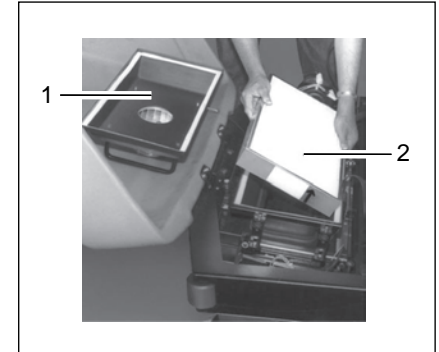

Fig. 39
Clean the panel air filter (Fig. 39/2) in the dust vacuum regularly or as necessary using the agitating device:
2. Remove the straps holding the filter case cover (Fig. 39/1).
3. Remove the filter case cover (Fig. 39/1).
4. Remove the panel air filter (Fig. 39/2).
Drop the panel air filter (Fig. 39/2) a few times, from a suitable height, onto a solid surface. Ensure the filter ribs are not damaged!
The surface must not have any irregularities. Do not let the panel air filter (Fig. 39/2) drop at a slant.
Do not install panel air filters (Fig. 39/2) which have damaged filter ribs!
The panel air filter (Fig. 39/2) must be installed in the reverse sequence to disassembly, refer to paragraph "Disassembling the panel air filter".
To not insert the panel air filter (Fig. 39/2) the wrong way round! Pay attention to the arrow on the frame of the panel air filter (Fig. 39/2)! The arrow must point upwards.